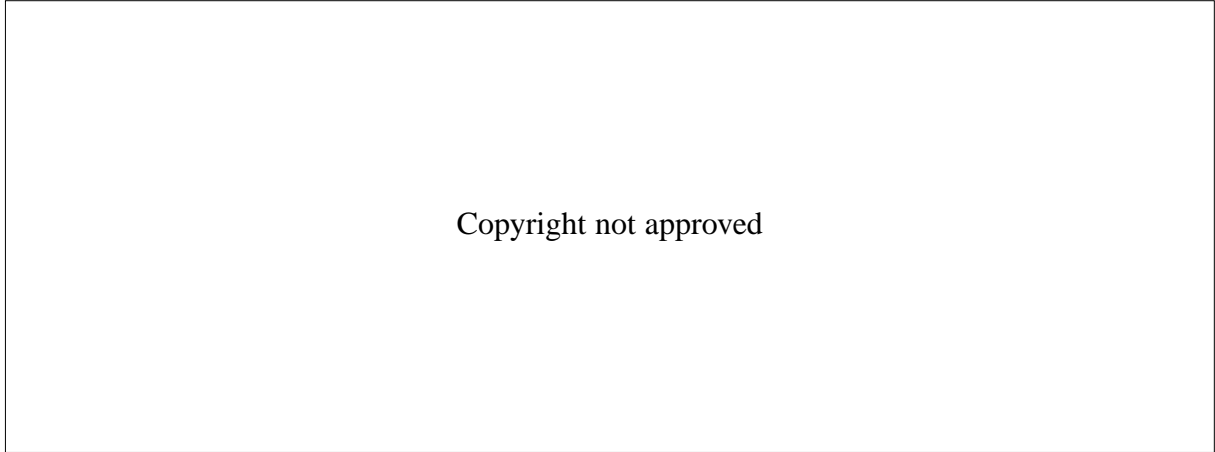

FIG. 2
- (l) Figure 2 shows a tractor operating with side mounted equipment on sloping ground. Should the equipment be placed on the uphill or downhill side of the tractor? Explain your answer with reference to the centre of gravity.